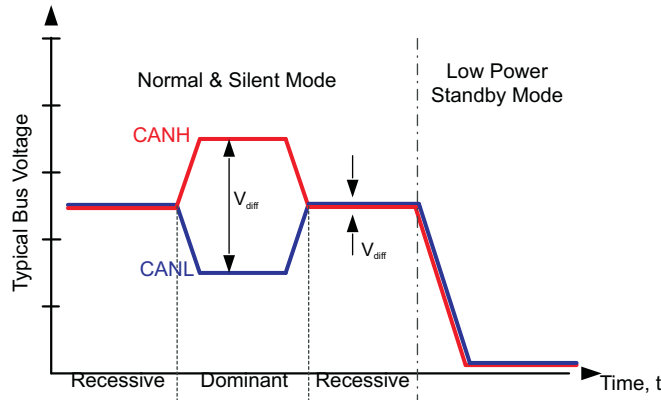
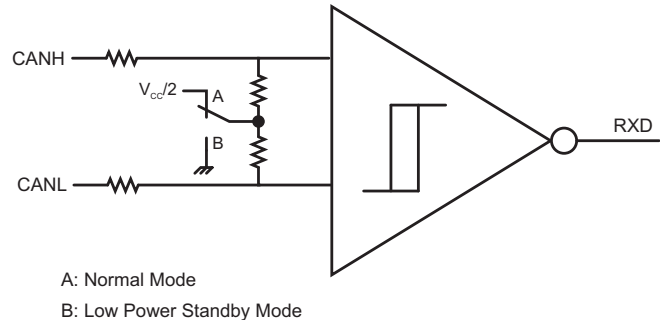

Figure 15. Bus States (Physical Bit Representation)
Figure 16. Simplified Common Mode Bias and Receiver Implementation
Both of the supply pins have undervoltage detection which place the device in forced standby mode to protect the bus during an undervoltage event on either the V_{CC} or V_{IO} supply pins. If V_{IO} is undervoltage the RXD pin is tri-stated and the device does not pass any wake-up signals from the bus to the RXD pin. Since the device is placed into forced standby mode the CAN bus pins have a common mode bias to ground protecting the CAN network, see Figure 15 and Figure 16.
- (1) See Figure 15 and Figure 16 for common mode bias information.
This is the low power mode of the device. It is selected by setting STB high. The CAN driver and receiver are turned off and bidirectional CAN communication is not possible. There is no wake up capability in the HVDA540, the RXD pin will remain recessive (high) while the device is in standby mode. This state is supplied via the V_{IO} supply, thus the V_{CC} (5V) supply may be turned off for additional power savings at the system level. The local protocol controller (MCU) should reactivate the device to normal mode to enable communication via the CAN bus. The 5 V (V_{CC}) supply needs to be reactivated by the local protocol controller to resume normal mode if it has been turned off for low-power standby operation. The CAN bus pins are weakly pulled to GND, see Figure 15 and Figure 16.
This is the low power mode of the device. It is selected by setting STB high. The CAN driver and main receiver are turned off and bidirectional CAN communication is not possible. The low power receiver and bus monitor, both supplied via the V_{IO} supply, are enabled to allow for RXD wake up requests via the CAN bus. The V_{CC} (5V) supply may be turned off for additional power savings at the system level. A wake up request will be output to RXD (driven low) for any dominant bus transmissions longer than the filter time t_{BUS} . The local protocol controller (MCU) should monitor RXD for transitions and then reactivate the device to normal mode based on the wake up request. The 5 V (V_{CC}) supply needs to be reactivated by the local protocol controller to resume normal mode if it has been turned off for low-power standby operation. The CAN bus pins are weakly pulled to GND, see Figure 15 and Figure 16.
- (1) H = high level, L = low level, X = irrelevant, Y = common mode bias to GND, Z = common mode bias to $V_{CC}/2$. See Figure 15 and Figure 16 for common mode bias information.
(2) HVDA540/541 have internal pull up to V_{IO} on STB pin. If STB pin is open the pin will be pulled high and the device will be in standby mode.
(3) HVDA542 has internal pulldown to GND on S pin. If S pin is open the pin will be pulled low and the device will be in normal mode.